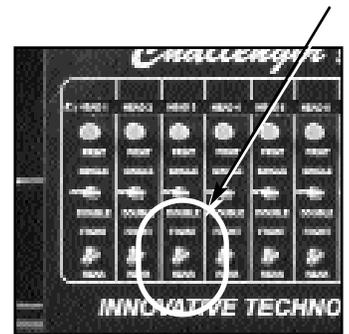

Fig. 4
- **Front/Rear Toggle Switch: (Figure 4)**